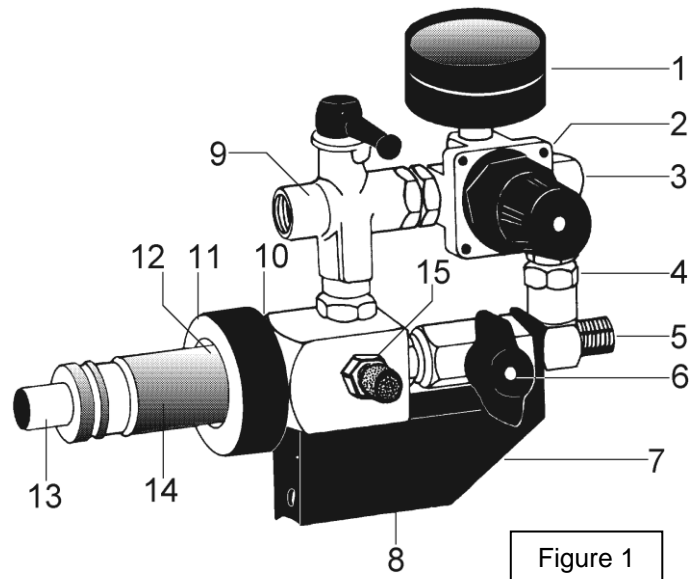

Figure 1
**3.8** Turn on Start/Stop Knob (Figure 1, Item 6) to spin rotating head. Squeeze spray gun trigger to begin paint flow. Release trigger immediately if carriage movement is interrupted. It is critical that the operator pulling the PIPECOATER hose move the tool through pipe at even rate to avoid excessive paint thickness. Speed of tool movement varies with pipe diameters. Small pipes can be painted faster than larger pipes. If two or more coats are desired, allow each coat to dry sufficiently prior to applying the next coat. Refer to paint manufacturers instructions for accurate drying time.
### 6.2 Control gun assembly (see Figure 1) ..... 71213